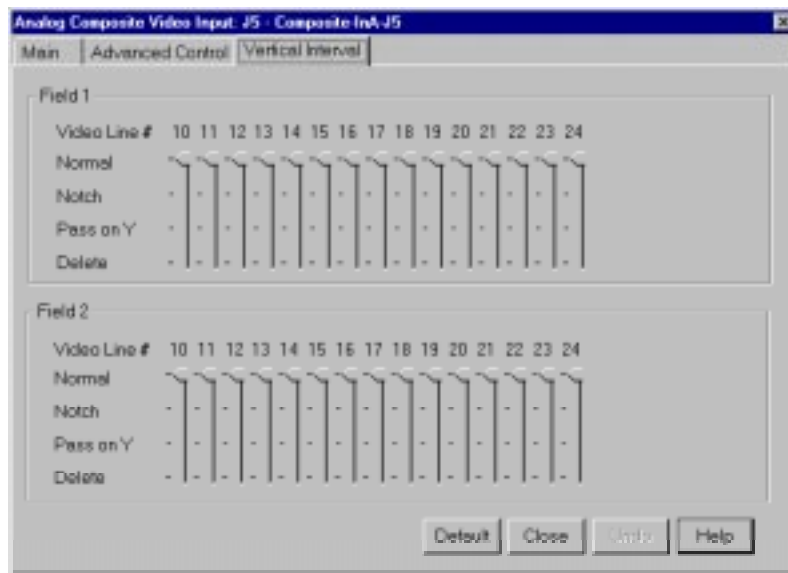

Figure 18. Analog Composite Video Input dialog box, Vertical Interval tab
1. Click or double-click on the **Vertical Interval** tab (see Figure 18).